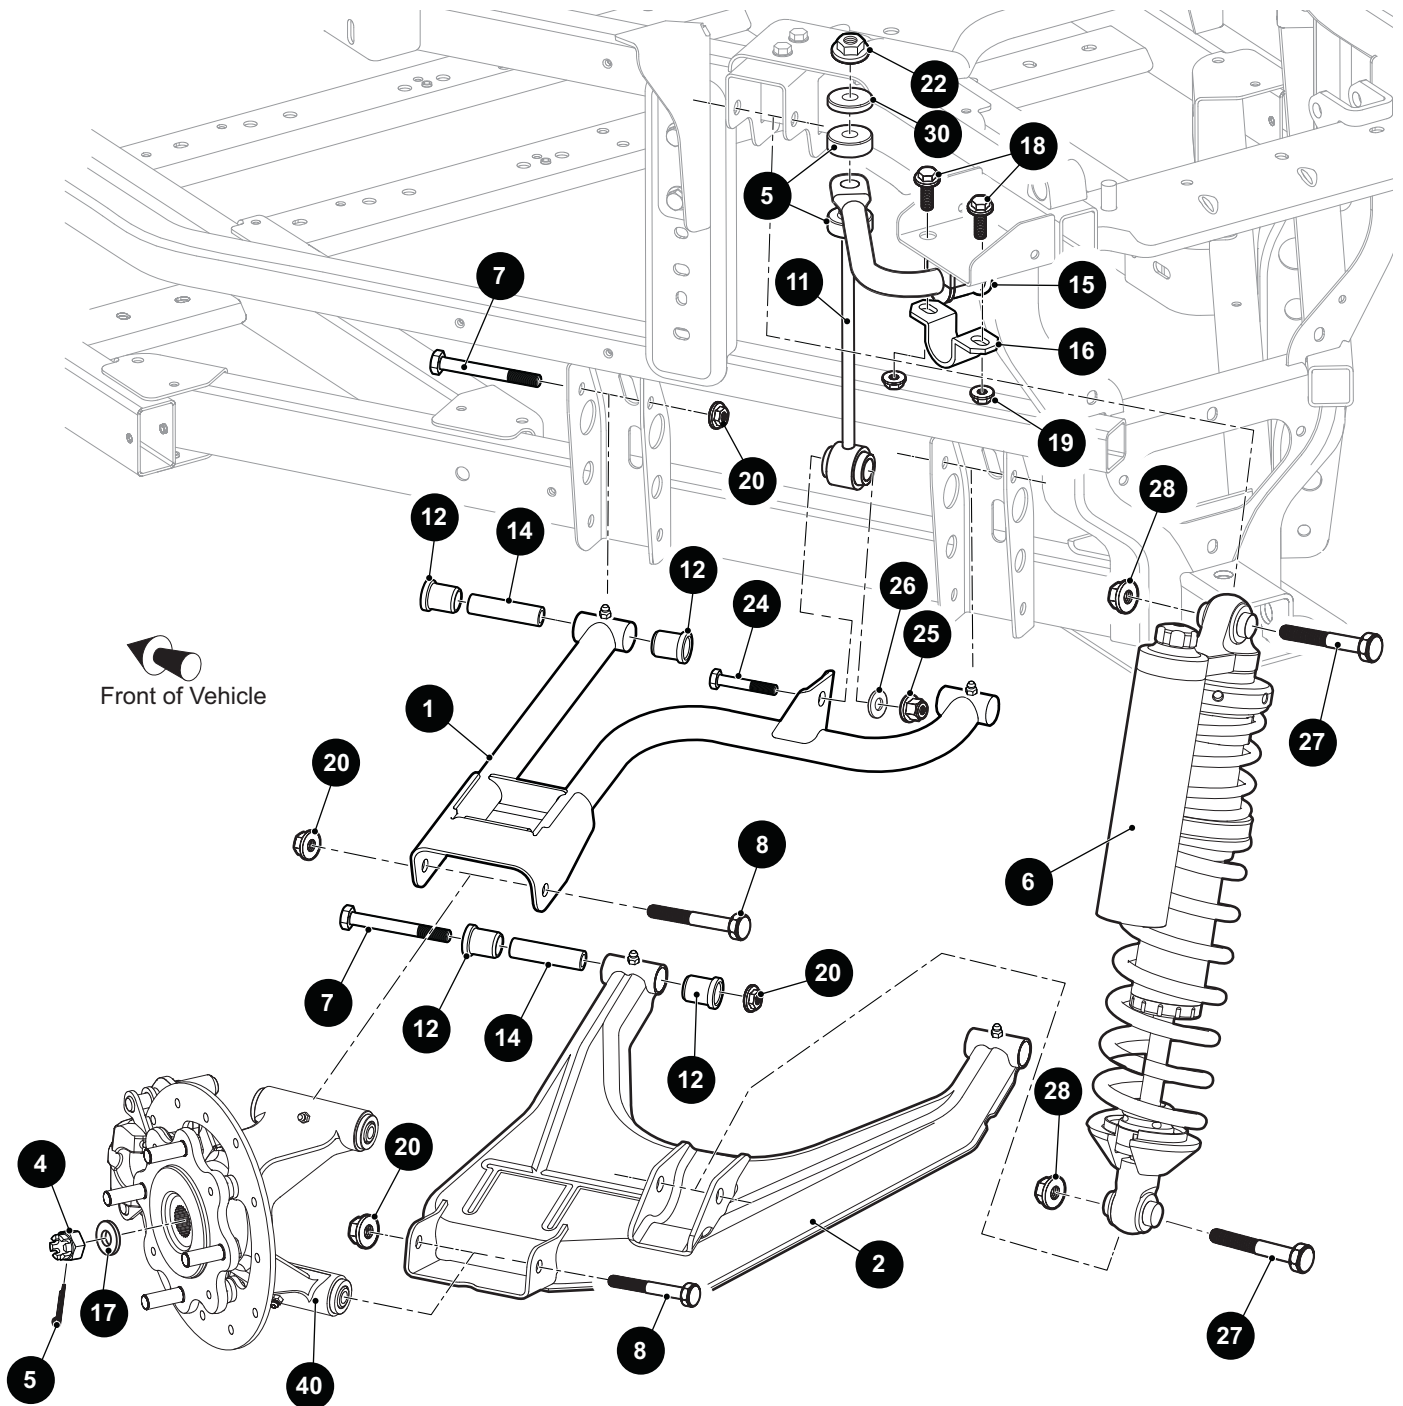
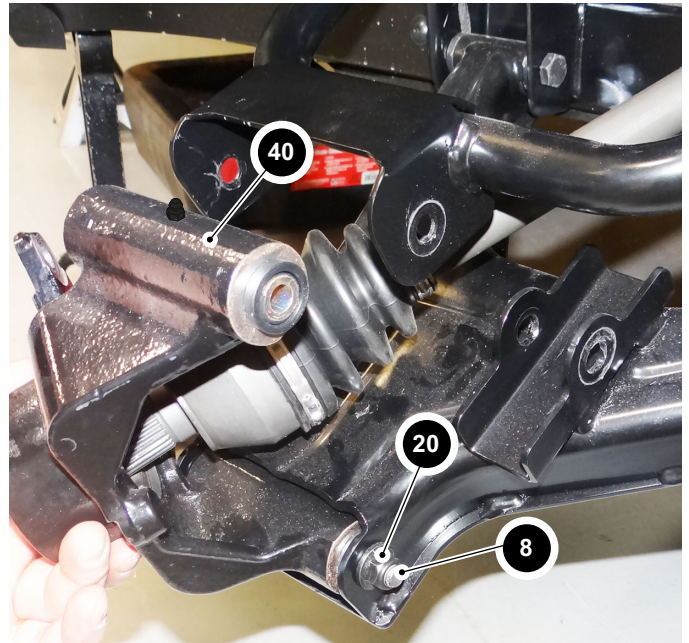

Fig. 1 Rear Suspension Components
Fig. 5 Spindle
5. Remove the bolt (8) and nut (20) that secure the spindle (40) to the upper control arm (1) (Ref. Fig. 1) (Ref. Fig. 5).
6. Remove the bolt (8) and nut (20) that secure the spindle (40) to the lower control arm (2) (See Fig. 1) (Ref. Fig. 6). Slide the spindle assembly off the CV axle splines.